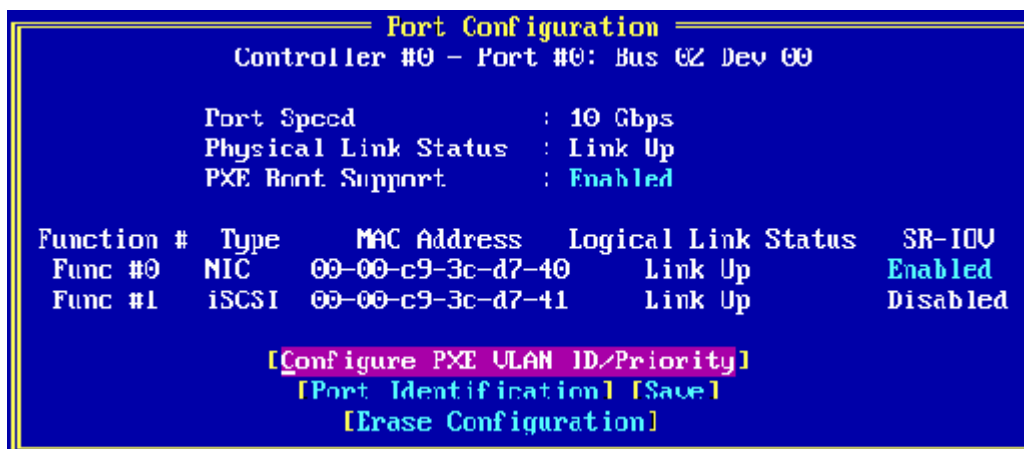

Figure 2-4 Port Configuration Screen
1. On the Port Configuration screen (Figure 2-4), select **Port Identification** and press <Enter>. The Port Identification screen appears.